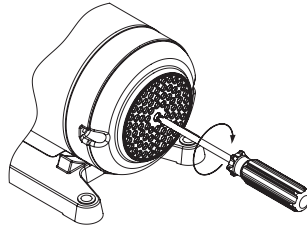

Fig. 10
4. If the pump shaft is seized up after periods of inactivity, please place a screw driver from the motor end to rotate the shaft. It should free the pump shaft. ( See Fig 10 ) If this does not remedy the problem, the unit will need dismantling.